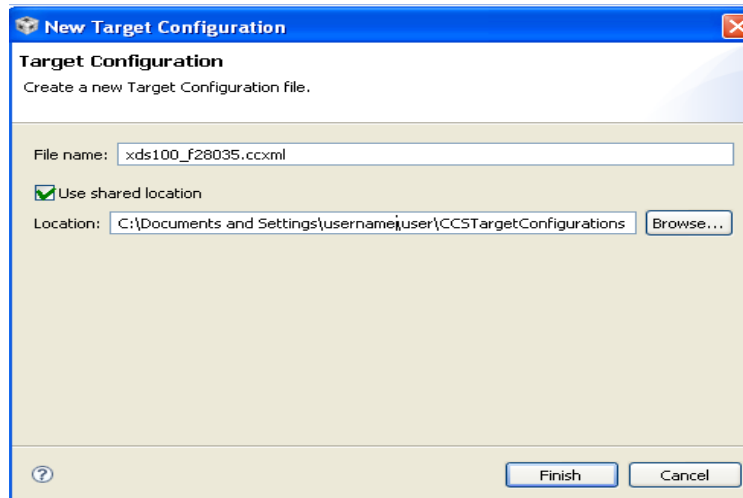

Figure 20 New Target Configuration for XDS100 v1 and F28035 MCU
5. Next we will configure Code Composer to know which MCU it will be connecting to. If you have previously connected to F28035 device using XDS100v1 emulator you may skip this step. Click “Target -> New Target Configuration...”. In the popup window, Figure 20, name the new configuration xds100-f28035.ccxml. Make sure that the “Use shared location” checkbox is checked and then click Finish.